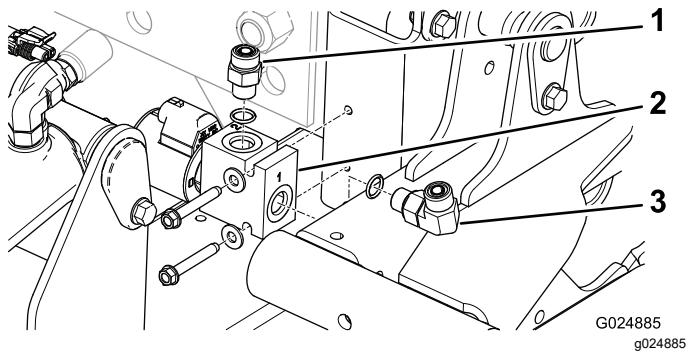

Figure 2
3. Mount the right deck-lock manifold to the frame tube with 2 self tapping screws (1/4 x 1-3/4 inch). Position the manifold as shown in Figure 2.
4. Install the straight hydraulic fitting into the top of the manifold (Figure 2).
5. Install the 90-degree hydraulic fitting into the end of the manifold (Figure 2).